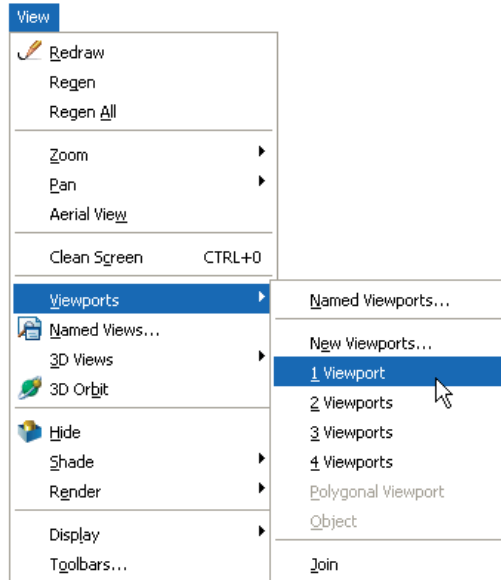

Fig. 15.30 Calling **1 Viewport** from the **View** drop-down menu
1. Open the drawing of the lathe tool holder constructed in answer to the first example in this chapter (Fig. 15.4). The drawing is in a **Four: Equal** viewports setting. *Click* in the **Top** viewport and from the **View** drop-down menu *click* **1 viewport** in the **Viewports** sub-menu (Fig. 15.30). The assembly appears in a full size single viewport.